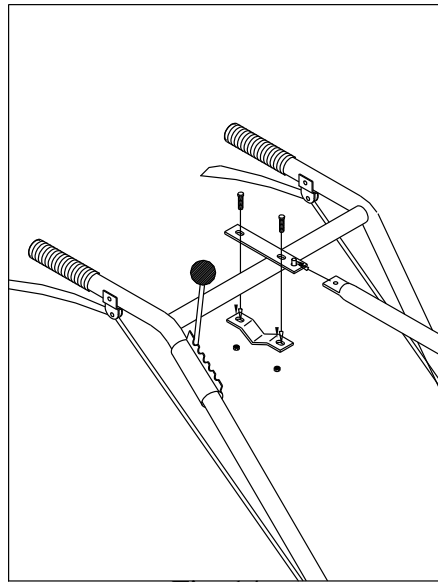

Fig. 14
14. The stabilizer assembly ties to the vertical upright and mounts to the mower (may be attached to side of handlebar if crossbar is not accessible). (Fig. 14) With handle bracket (29) and handle clamp (30) in position as shown, strap handlebar cross brace between clamp assembly. Secure with 5/16" x 1" HHC and 5/16" whizlock nuts. Slide hose clamp (27) over support arm (28) and support arm extension (26). Slip hole on extension over pin on eyebolt bracket and secure with #3 hairpin clip. Slide hose clamp to slotted end of support and tighten.